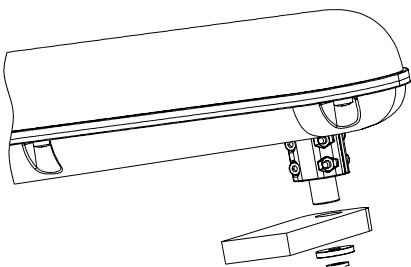

Fig. 14
- 2) Loosen the two screws (Fig.14 ref. **A**), axially shift the closing limit-switch to the required position and re-tighten the two screws.
- 3) Loosen the two screws (Fig.14 ref. **B**), axially shift the opening limit-switch to the required position and re-tighten the two screws.